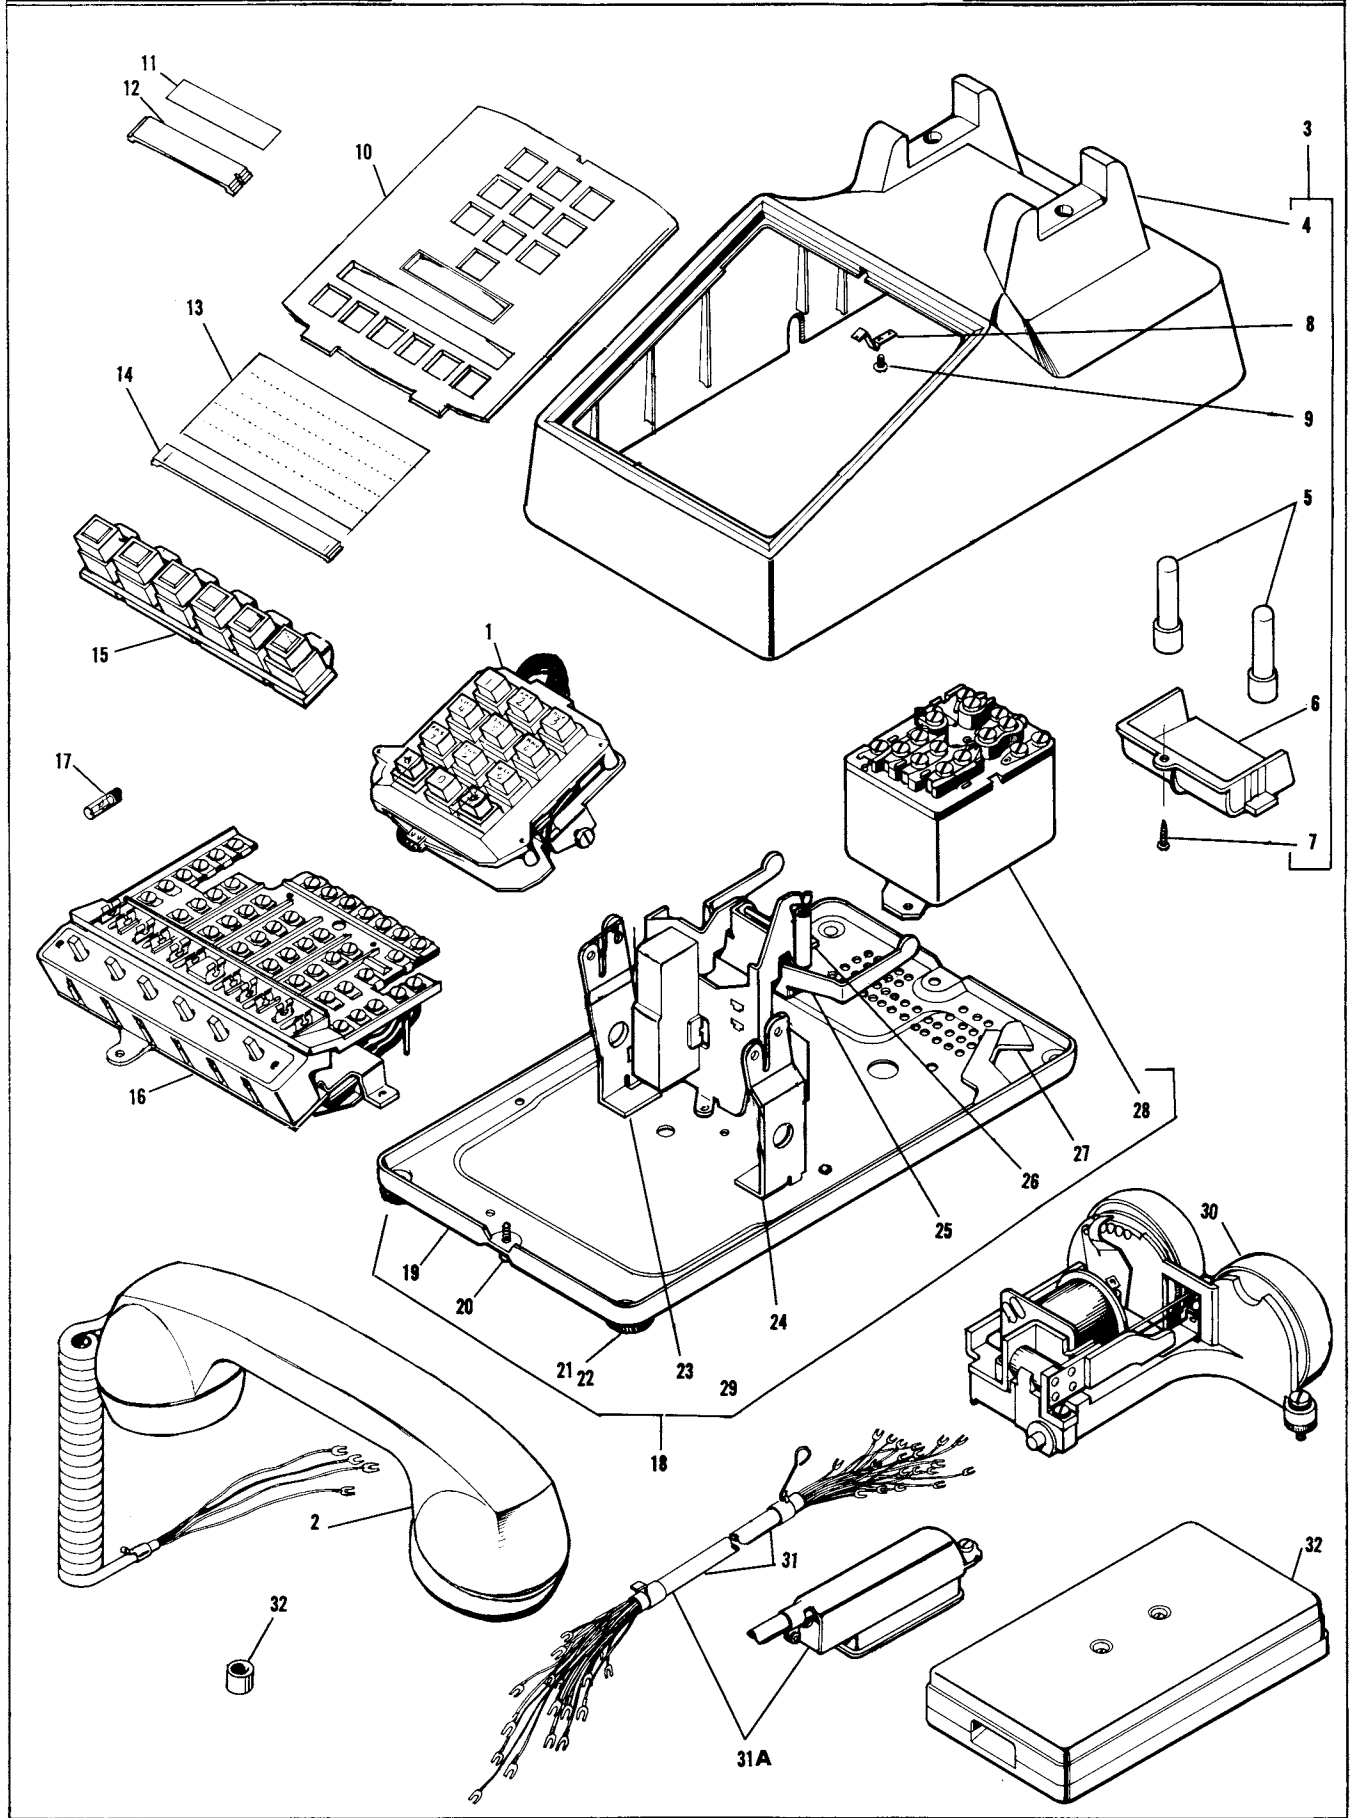

Figure 2. K-1564 and K-2564 Key Telephones, Exploded view.
The Connecting Block Assembly, (item 32, figure 2), is not included with the telephone and must be ordered separately when required.